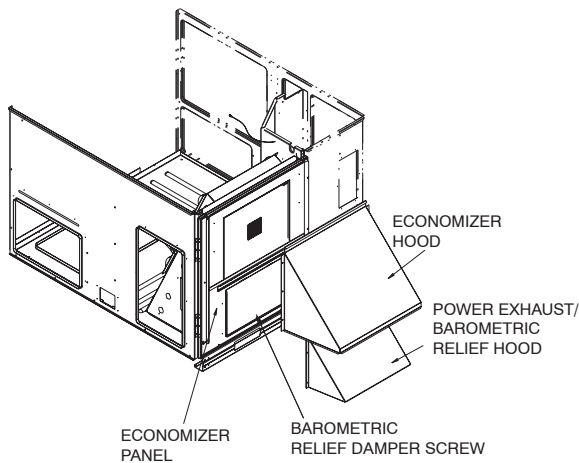

Fig. 15 - Hood Installation
3. The barometric relief damper is factory mounted onto the economizer panel for shipping. Remove the screw holding the barometric relief damper to the panel. Damper should be free to swing open during operation. (See Fig. 15.)
4. Hang the barometric relief/power exhaust hood on the mounting flange on the economizer panel. Secure hood to panel with screws saved from Step 2. (See Fig. 15 and 16.)